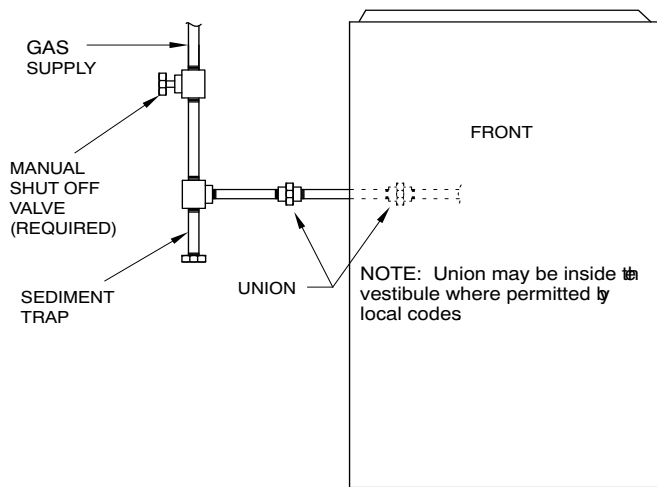

Fig. 32 – Typical Gas Pipe Arrangement A11035
Install a sediment trap externally in the riser leading to furnace as shown in Fig. 32. Connect a capped nipple into lower end of tee. Capped nipple should extend below level of furnace gas controls. Place a ground joint union between furnace gas control valve and exterior manual equipment gas shutoff valve.
5. Fasten the external electrical box to the furnace casing using two (2) sheet metal screws.
11. Connect field power and neutral leads to furnace power leads inside the external electrical box as shown in Fig. 32.